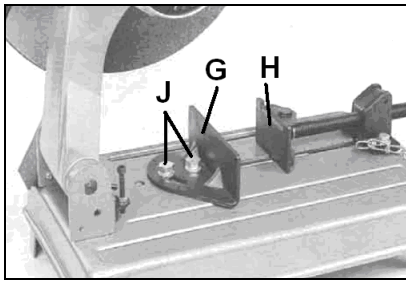

Fig 5
To extend the clamping range, various mounting positions for the vise jaw (G, Fig 5) are provided.
Loose the screws (J, Fig 5) and lock the vice jaw (G) in the desired mitre position.